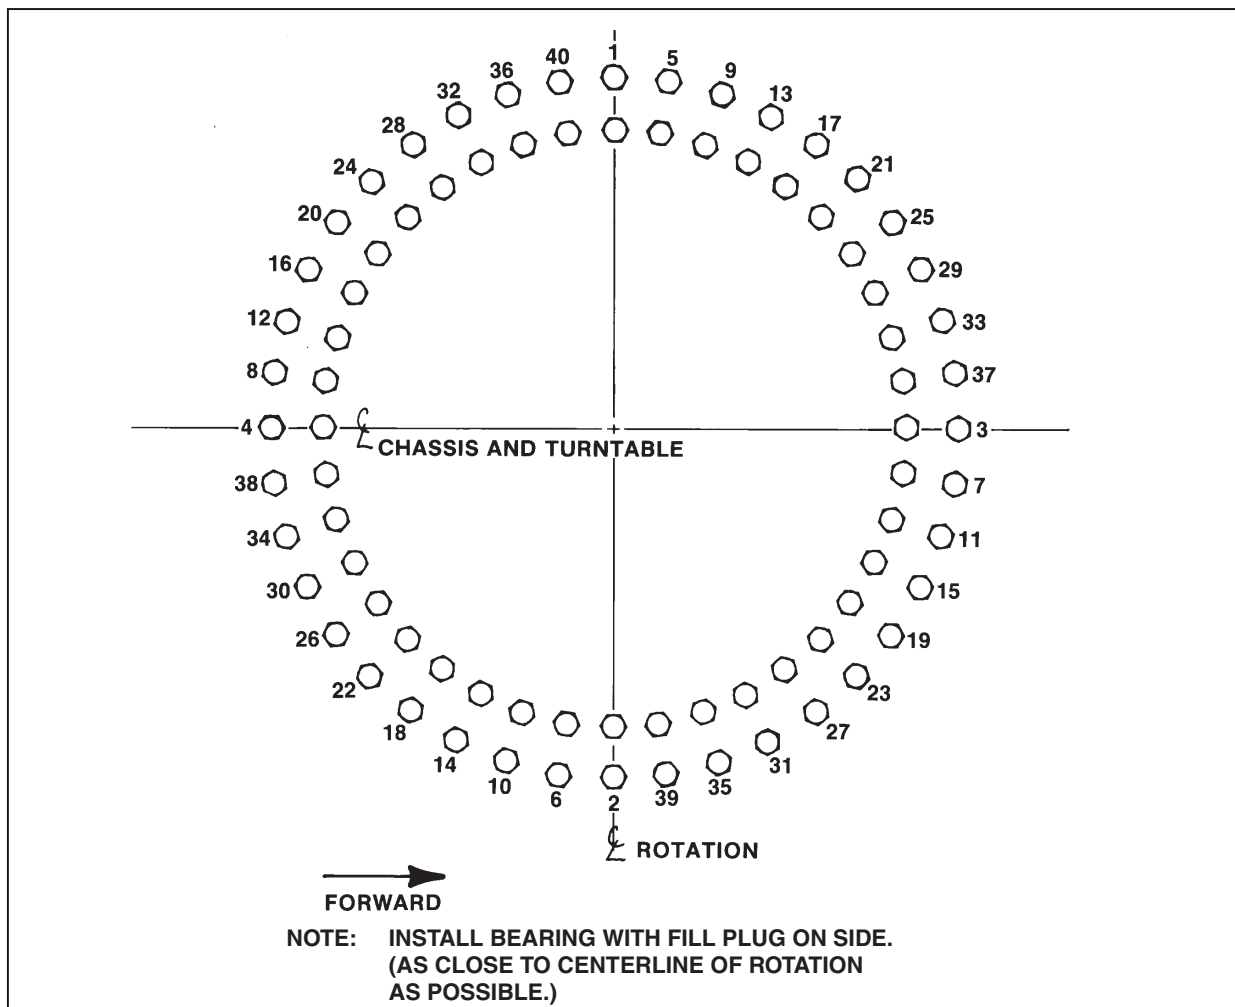

Figure 2-20. Swing Bearing Bolt Torquing Sequence
- i. Use suitable hydraulic jacks to carefully raise the swing bearing to the underside of the turntable mounting plate. Ensure that the scribed line of the inner race of the bearing aligns with the scribed mark on the turntable (If a new swing bearing is used, ensure that the filler plug fitting is at 90 degrees from the fore and aft centerline of the turntable. See Figure 2-20., Swing Bearing Bolt Torquing Sequence).
- j. Ensure that all turntable and bearing attachment holes are aligned, and install four (4) diametrically opposed clamps or bolts and nuts to secure the bearing to the turntable. Tighten the nuts and bolts or clamp evenly in a diametrical pattern to a torque of 20 ft. lb. (27 Nm).
- q. Following the Torque Sequence diagram shown in Figure 2-20., tighten the bolts to an initial torque of 180 ft. lbs. (244 Nm). Then following the same sequence tighten the bolts to a final torque of 240 ft. lbs. (325 Nm).
- v. Following the Torque Sequence diagram shown in Figure 2-20., Swing Bearing Bolt Torquing Sequence, tighten the bolts to an initial torque of 180 ft. lbs. (244 Nm). Then following the same sequence tighten the bolts to a final torque of 240 ft. lbs. (325 Nm).
- 3. Swing Bearing Torquing Sequence, (See Figure 2-20.)